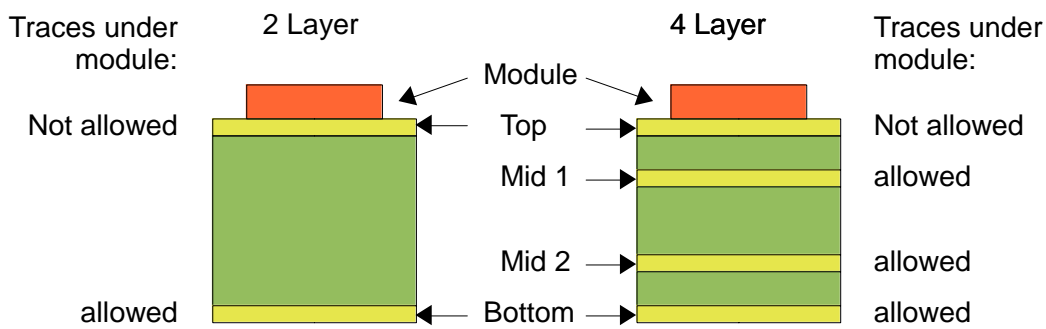

Figure 37: Layer design of 2 and 4 layer boards
- Traces on top layer are not allowed under the module (see **Figure 37**)
- Traces on mid layers and bottom layers are allowed (see **Figure 37**)